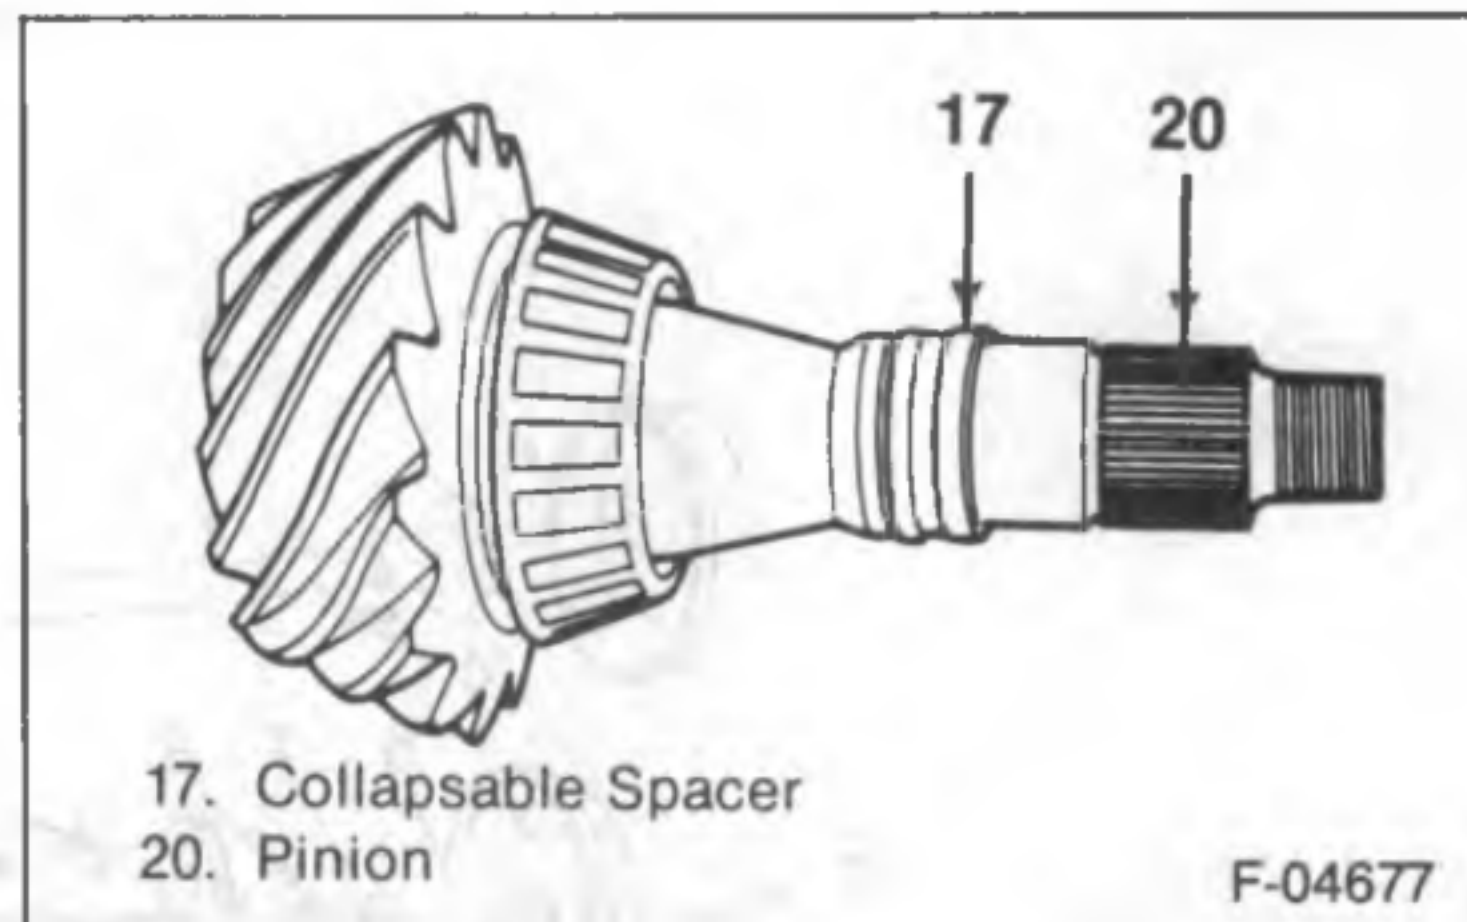
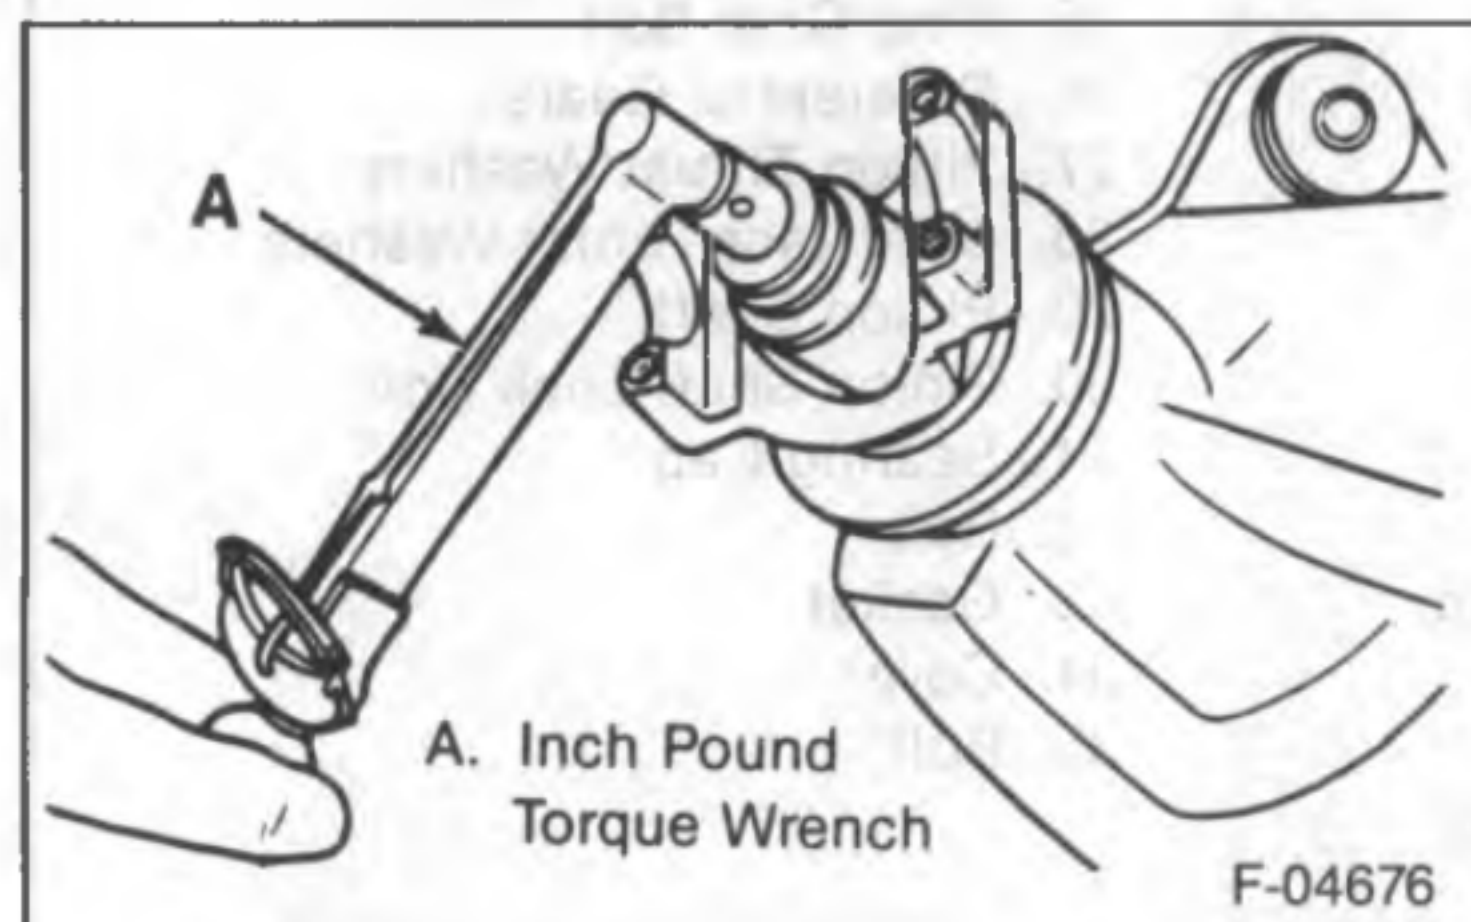
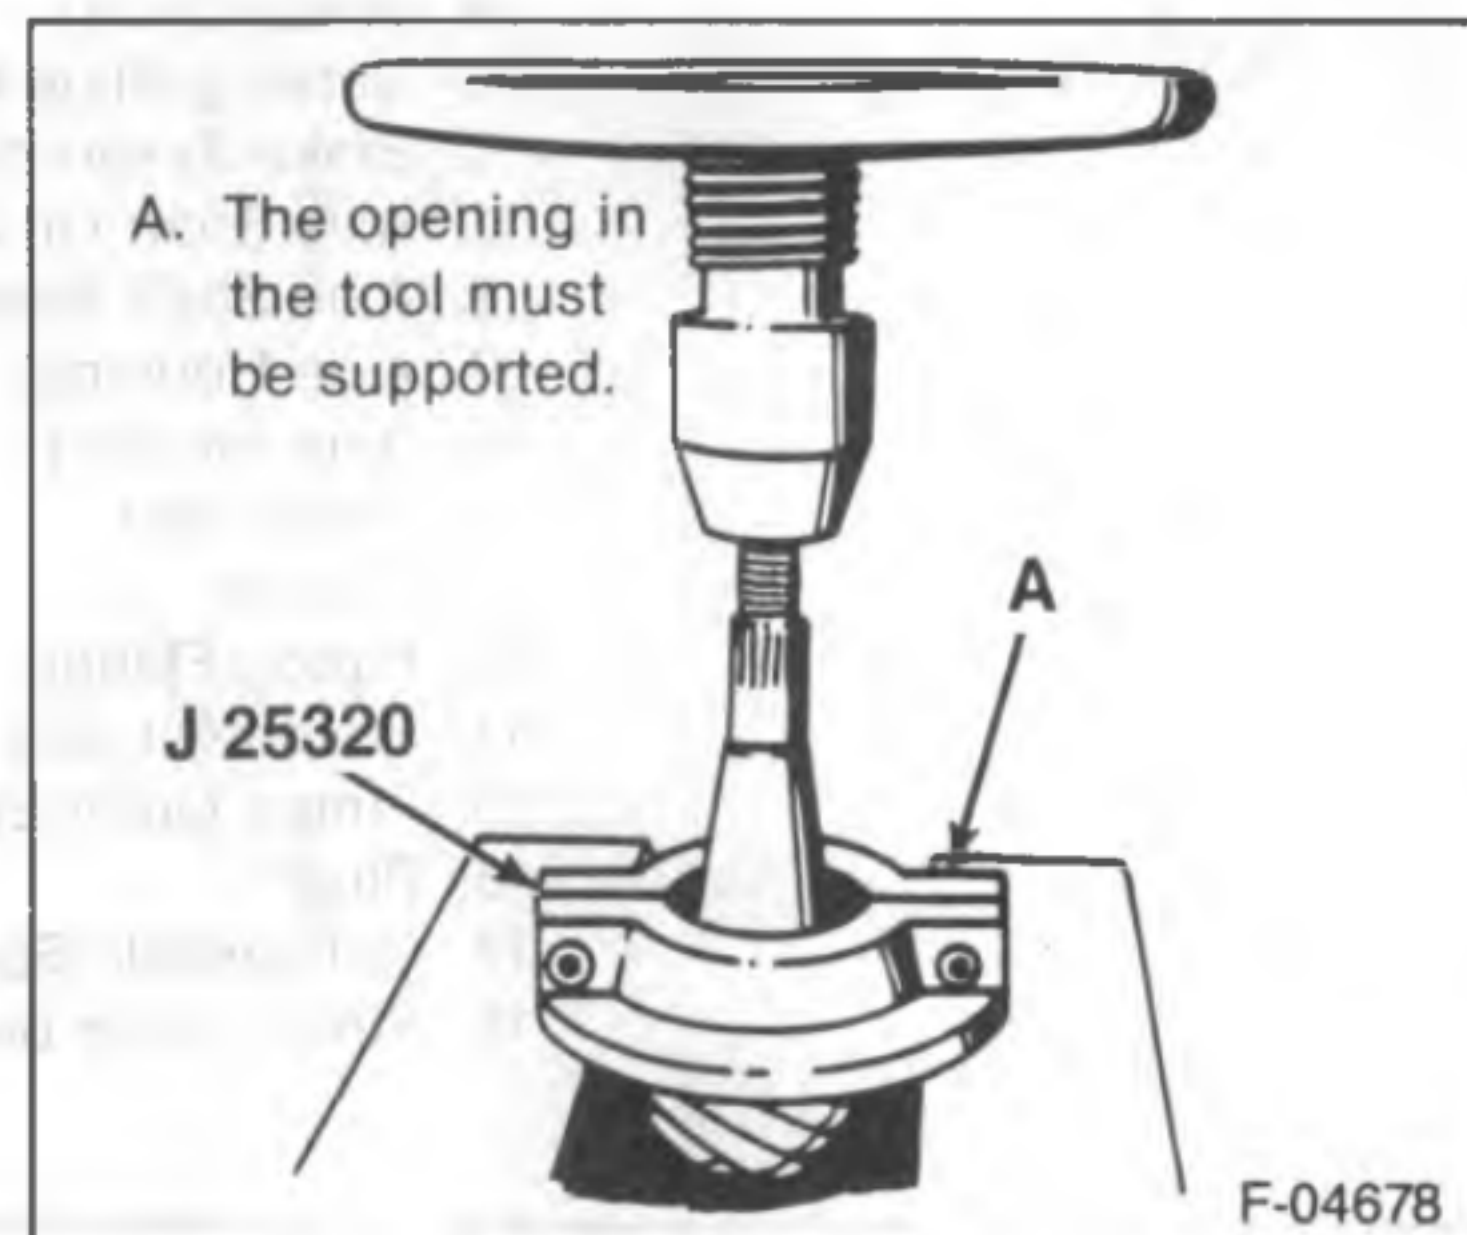

Figure 5—Pinion Collapsible Spacer
Figure 4—Checking Pinion Preload
Figure 6—Removing the Pinion Rear Bearing
- Drive pinion bearing preload (figure 4).
- 14. Pinion flange nut (11) and washer (12) using J 8614-01 to hold the pinion flange.
- 16. Pinion (20) from the axle housing.
- Replace the differential cover (34) with two bolts (35) to keep the pinion from falling to the floor.
- Remove the cover (34) and the pinion (20).
- 17. Collapsible spacer (17) from the pinion (figure 5).
- 18. Outer seal (14) and outer pinion bearing (15).
- 19. Inner bearing (18) and shim (19) from the pinion.
- Press the bearing off the pinion using J 25320 (figure 6).